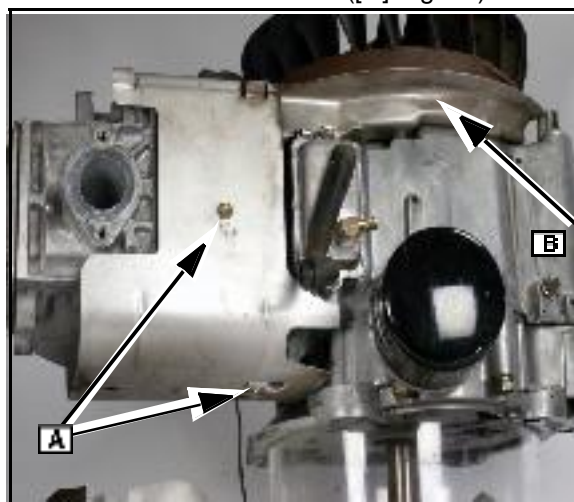

Fig. 21
1. Remove the two bolts ([A] Fig. 21).
**NOTE:** The blower housing support/baffle plate ([B] Fig.21) must be removed after the flywheel is removed. **SEE SECTION 3- BLOWER HOUSING REMOVAL.**